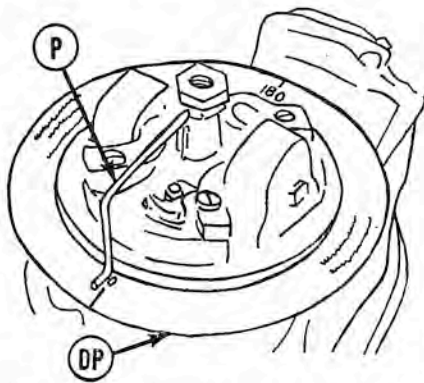
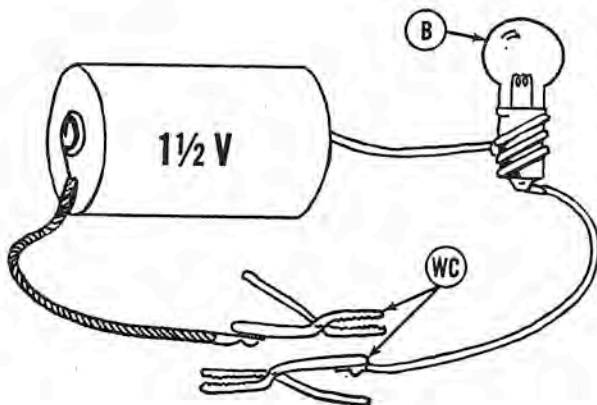

Fig. M52—Synchronizing tool installed for adjusting the magneto points. Refer to text for details.
Fig. M53—A timing test light can be constructed as shown, using a flashlight battery, bulb (B), two wire clips (WC) and short pieces of wire.
All Models Except Merc 350: Breaker point gap should be set at approximately 0.018. The two sets of points should be set to open at exactly 180 degree intervals. The points may be synchronized by using the Mercury Synchronizing Tool Set, part number 91-28619A1 shown in Fig. M52 (or equivalent); plus a timing test light such as that shown in Fig. M53. To adjust the timing, remove the flywheel and install the degree plate (DP—Fig. M52) and pointer (P). Set the contact points for top cylinder at 0.018. Remove the spark plugs and install the test light by attaching one clip to insulated point connection and the other clip to a suitable ground. Turn the crankshaft
Timing and synchronizing is best accomplished using the Mercury Timing Gage (Tool No. 91-32253A1) and a timing test light such as that shown in Fig. M53. Adjust the points as follows: